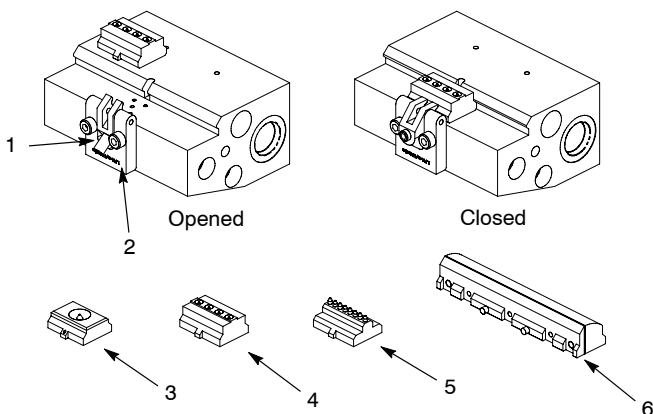

Figure 11: Nozzle clamp screw and retaining clamp
See Figure 11.
2. See Figure 11. Inspect the nozzle O-ring, replace if necessary, and ensure that the O-ring is lubricated and properly positioned in the O-ring bore.